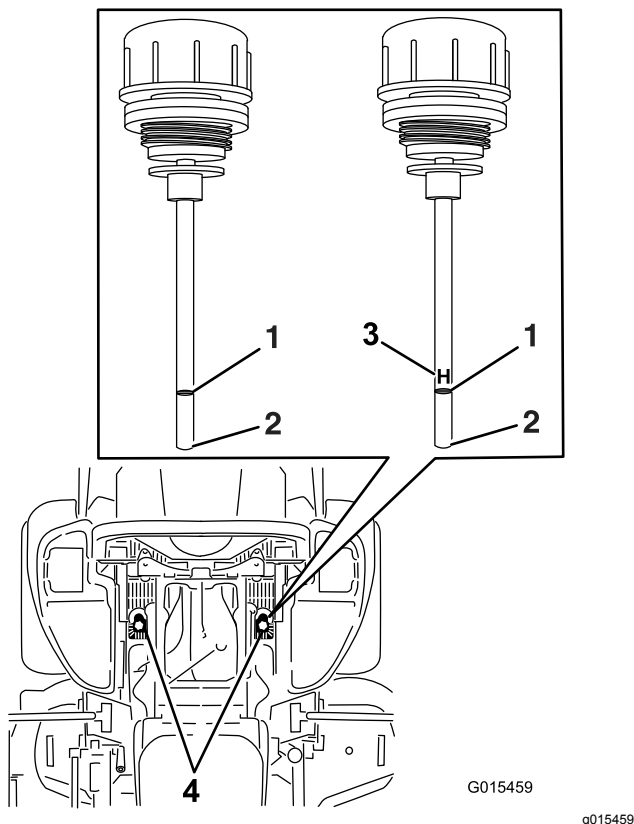

Figure 90
6. Clean the area around the dipsticks of hydraulic-system reservoirs (Figure 90).
7. Remove 1 dipstick from the hydraulic reservoir (Figure 90).
9. Remove the dipstick and look at the end (Figure 90).